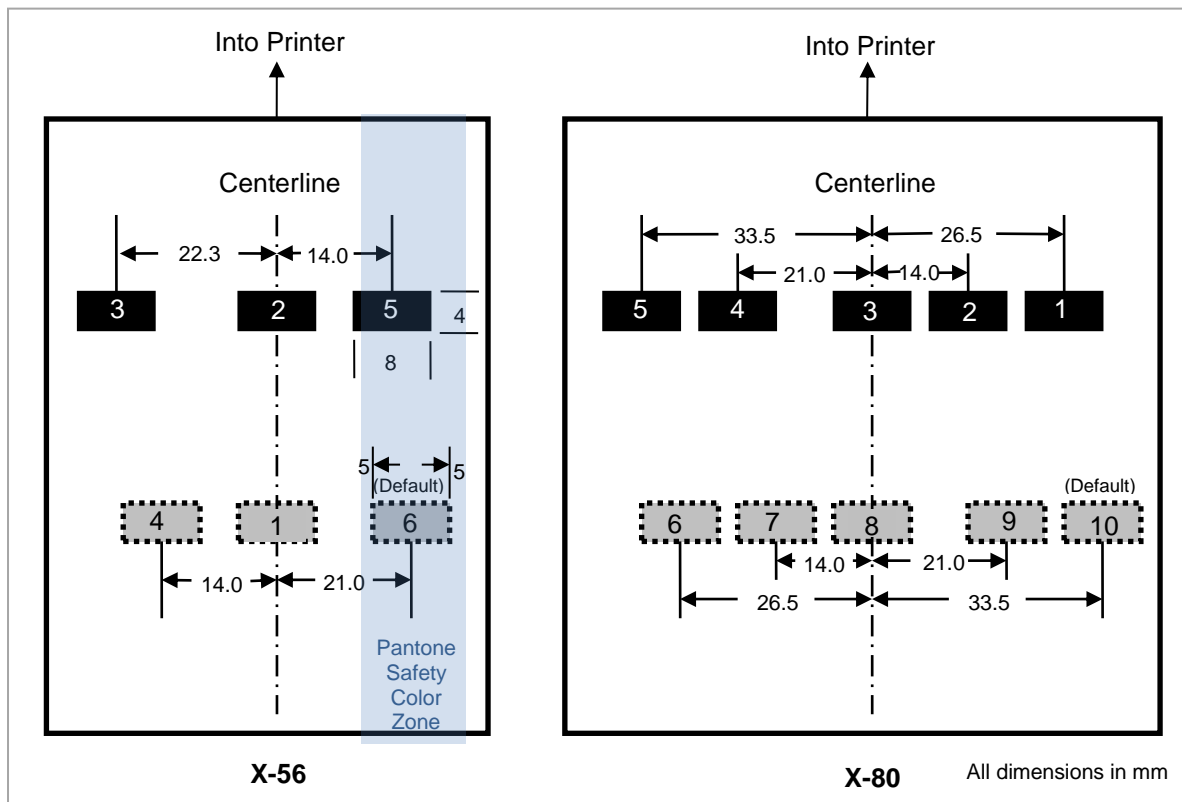

Figure 13 – Sensor Positions (top view on thermal layer)
The Black Mark (BM) sensor of the eXtendo® printers can be located in numerous positions during manufacturing, both above and below the paper. Figure 13 represents X-56 and X-80 paper, and show where the BM should be located in order to be detected with the BM sensor of your eXtendo® printer. Grey/dotted areas reference locations on the back (bottom) side of the paper. The number inside each black mark area is the BM Position number and refers to the printer's match code that you would see on quotations, invoices etc. (e.g. X56-S-F-06-J-.. here an X-56, Serial Interface, BM sensor at location 6).
In order to avoid accidental interpretation of preprinted information as the black mark, it's necessary to keep the area 5 mm to the left and right of the BM edges for the entire length of the printout free of all printing except Pantone Safety Colors with a print contrast (PCS) value of under 15%, as measured by MacBeth RD924. The BM itself must have a print contrast over 80%, per DIN 66223, measured with MacBeth PCM2, Filter B. This applied to the side of the printout where the BM is located, regardless of whether it is the thermal-coated side or not. The blue area in Fig. 13 shows this zone for the default sensor position 6 of the X-56.